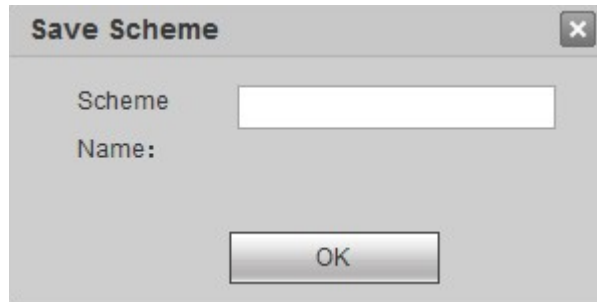

Figure 4-11
Step 2 Click . The system pops up “Save Scheme” window, as shown in Figure 4-11.